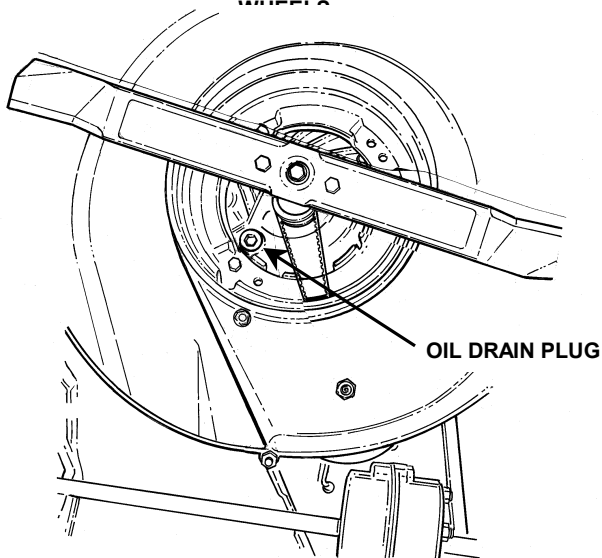

FIGURE 3.1
1. Disconnect spark plug wire and secure end away from plug. The items needed to perform oil change are: cloth rags, (1) 3/8" drive ratchet with a short extension and (1) shallow pan.
2. Tilt mower up on its rear wheels for access to the oil drain plug located underneath the mower deck. Do not tilt mower with spark plug or carburetor down. See Figure 3.1.